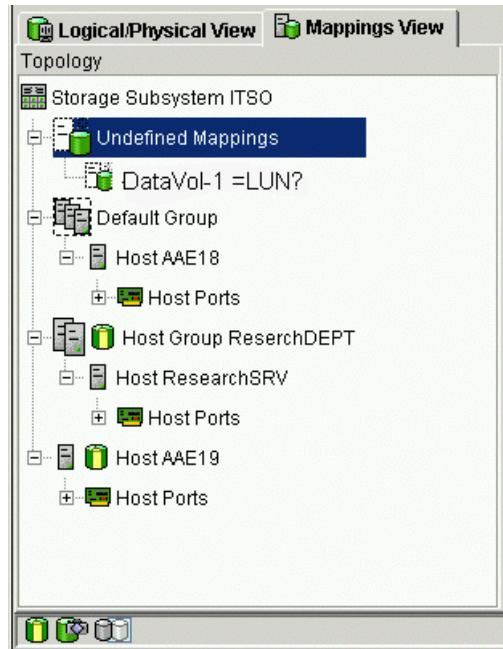

Figure 5-19 Undefined FlashCopy Disk
1. Open the Mappings View (Figure 5-19) of the Management window. The newly created FlashCopy logical drive appears in the undefined mapping section.